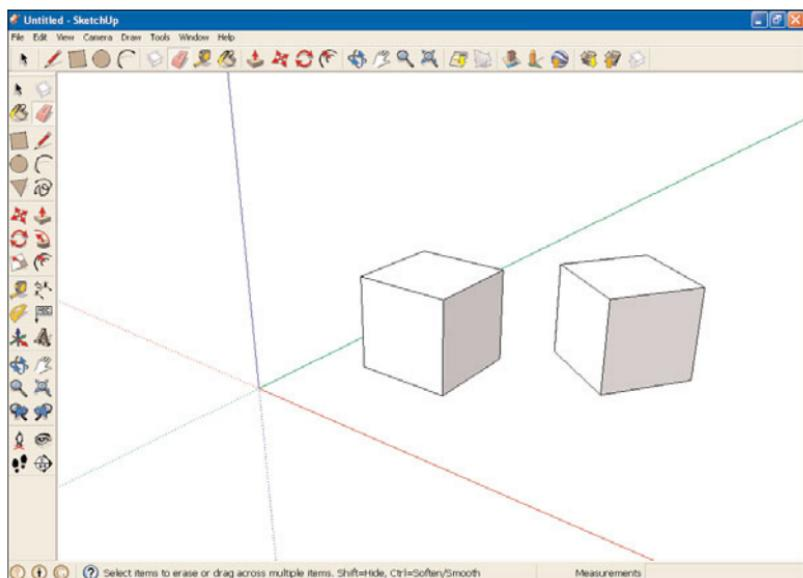

FIGURE 10.14 Two cubes at a specified angle.
Suppose you need them to be aligned so that the back face of the right cube is at 145° with respect to the right face of the left cube, as shown in Figure 10.14. How could you move the cubes to meet this criteria?
16. Use the Eraser tool to delete the guide. You end up with the drawing previously shown in Figure 10.14.